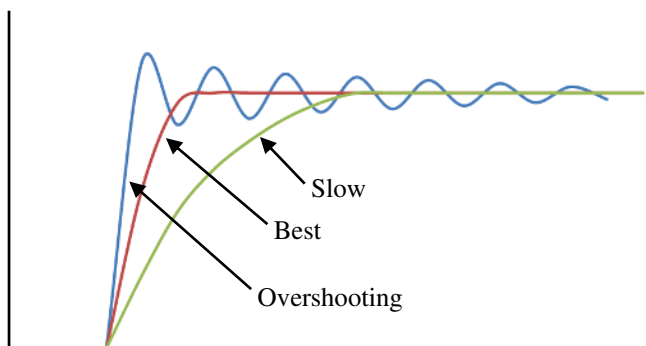
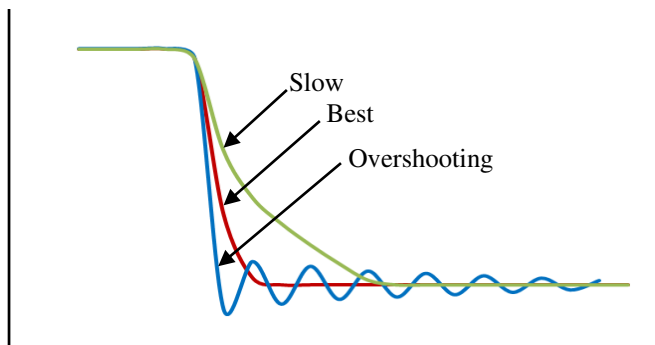

Figure 8. Rise Waveforms of VTEC
Figure 9. Fall Waveforms of VTEC
1. Hook up the power supply, TEC and thermistor. There are 2 solder pads in the upper right area on the edge for connecting the DC power supply voltages in the right polarity as indicated onto the board. Usually the power supply is set to 5V. There are also 2 solder pads in the center right area on the edge for connecting the TEC terminals in the right polarity as indicated onto the board. Connect the thermistor terminals to the board, there is no polarity requirement. On the top of the board, there is the switch bank SDNG, the second switch Delta TEMPSP is used to adjust the compensation network of temperature control loop by inputting a square wave disturbing signal in temperature input point, which enables the system to generate corresponding response waveform. At this time, observe the waveform change by oscilloscope, and adjust and optimize the compensation network of the temperature control loop so as to achieve the best waveform at the same time. Response waveform is achieved by measuring VTEC with oscilloscope, as shown in Figure 8 and Figure 9. The compensation network components consist of RI, RD, RP, CD and CI, which will be adjusted by S2, S3, S4, S5 and S6 (When turning one of these switches to higher position, the corresponding value will be applied). These connections can be done by clipping or soldering on the pads, see Figure 1. Check the evaluation board connections, making sure that they are all correctly connected.